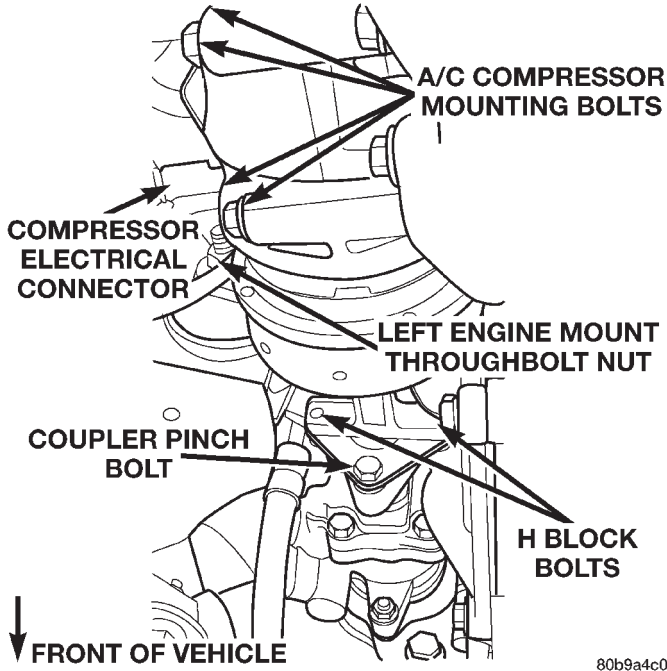
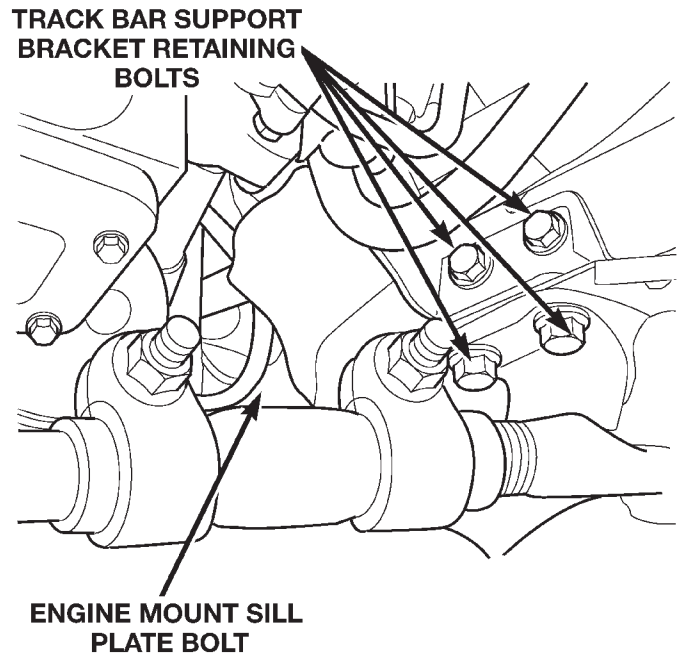

Fig. 9 A/C Compressor Position & Orientation
Fig. 10 Left Engine Mount Retaining Bolts
(7) Remove the left engine mount throughbolt nut only (Fig. 9). Do not remove the bolt at this time.
(9) Remove the (2) H-Block retaining bolts from the power steering pump side of the block (Fig. 9).
(10) Support the A/C Compressor with mechanics wire before proceeding to the next step.
(11) Remove the (4) A/C Compressor retaining bolts (Fig. 9).
(12) Remove the remaining (2) bolts from the H-Block and remove the H-Block from the compressor.
(13) Position a jack stand and raise the weight off the left engine mount.
(14) Remove the (4) engine mount bracket bolts from the engine block.
(15) Remove the (4) trackbar support bracket bolts and remove the bracket (Fig. 10).
(16) Remove the remaining engine mount lower sill plate bolt (Fig. 10).
(17) Remove the engine mount throughbolt.
(18) Remove the left engine mount from the vehicle.